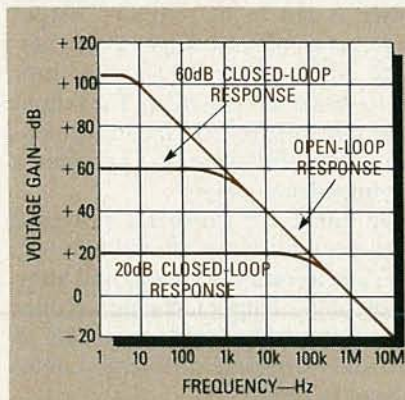

FIG. 4—TYPICAL FREQUENCY-response curve of the 741 op-amp. Notice how the bandwidth changes depending on how the circuit is configured.
Figure 4 shows the typical response curve of a 741-type op-amp, which has an  $f_T$  of 1 MHz, and a low-frequency gain of 106 dB.
**Note:** when the op-amp is used in a closed-loop amplifier circuit, the bandwidth of the circuit depends on the closed-loop gain. Therefore, as shown in Fig. 4, if the amplifier circuit has a gain of 60 dB, its bandwidth is only 1 kHz, but if the circuit has a gain of 20 dB, its bandwidth is 100